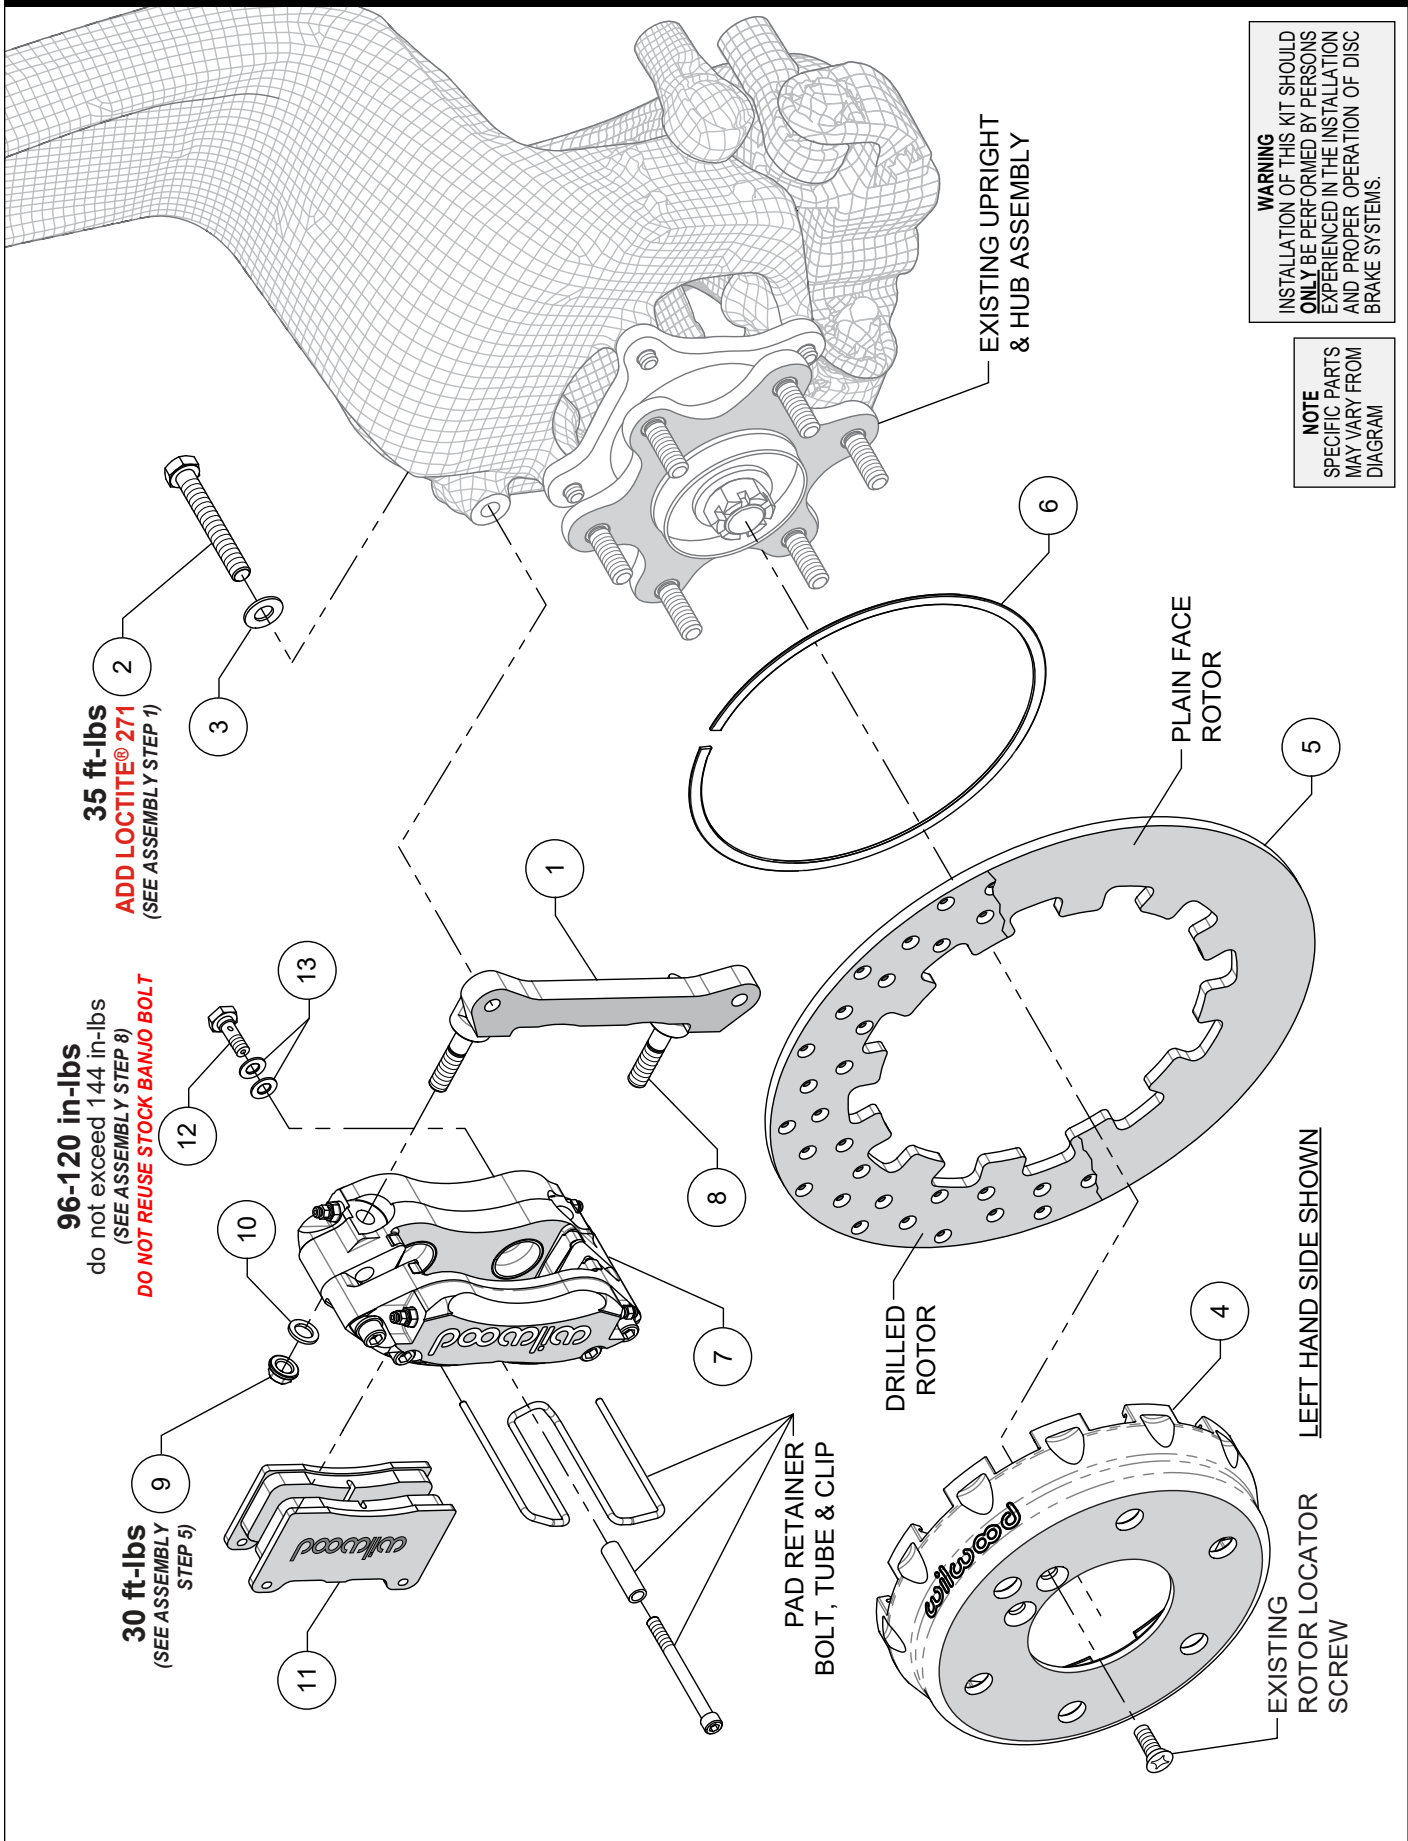

Figure 1. Typical Installation Configuration
NOTE: Numbers in parenthesis refer to the parts list and Figure 1 on the preceding pages.
STEP 1 The caliper mount bracket (1) should initially be installed with clean, dry threads on the mounting bolts. Orient the bracket, as shown in Figure 1 and Photo 1, and install using bolts (2) and washers (3). Temporarily tighten the mounting bolts. **NOTE:** The bracket must fit squarely against the mount bosses on the upright. Inspect for interference from casting irregularities, machining ridges, burrs, etc. Remove the bracket mounting bolts (2) one at a time, apply red Loctite® 271 to the threads, and torque to value shown in Figure 1.
STEP 2 Position the rotor (5) onto the hat (4), making sure the rotor lugs fit into the recesses of the hat, as shown in Photo 2.
STEP 3 Secure rotor to the hat using the snap ring (6) by installing the ring into the groove in the hat, as shown in Photos 3 and 4. **Carefully inspect snap ring to ensure complete engagement in the groove.**
excessive rotor run out may result. Install the existing rotor locator screw to keep the hat/rotor assembly in place while continuing with the installation, Figure 1 and Photo 5.
STEP 5 Mount the caliper (7) onto the caliper bracket studs (8) using lock nuts (9) and washers (10), Figure 1. Torque lock nuts (9) to value shown in Figure 1.
STEP 6 Remove the pad retainer bolt, tube, and clip from the caliper (7), Figure 1. Insert the brake pads (11) into the caliper with the friction material facing the rotor, as shown in Photo 6. Secure the pads in place using the pad clip retainer as well as the pad retainer tube and bolt, Photo 7. The bolt should be snug without play in the tube. Be cautious not to over tighten.
STEP 8 Attach brake line to caliper. Connect OEM brake line to caliper using banjo bolt (12) and crush washers (13), Photo 8. Do not use lubricant or thread sealant on banjo bolt (12). Torque to minimum value shown in Figure 1. Check for leakage, increasing torque only to stop leakage without exceeding maximum specification. Replace crush washers and banjo bolt whenever reassembly is required. **Ensure hoses are routed to prevent contact with moving suspension, brake or wheel components.**